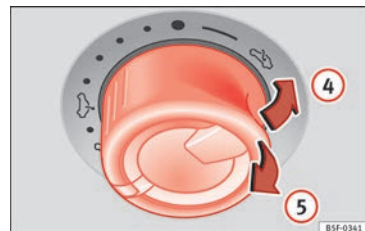

Fig. 12 In the interior roof: press or pull the knob to raise the sunroof and close it.
- To tilt open: Push the switch to position »» Fig. 12 ④. For an intermediate position, hold down the switch until you reach the desired position.
- Lowering: Pull the switch to position »» Fig. 12 ⑤. For an intermediate position, hold down the switch until you reach the desired position.